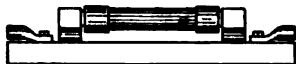

FIG. 271.—A type of enclosed fuse.
*fuse* is a short piece of wire that will melt and break the circuit if the current exceeds a determined value. The fuse wire is usually enclosed in an incombustible holder. Fuse wire is frequently made of lead or of an alloy of lead and other easily fusible metals. (See Figs. 271 and 272.)